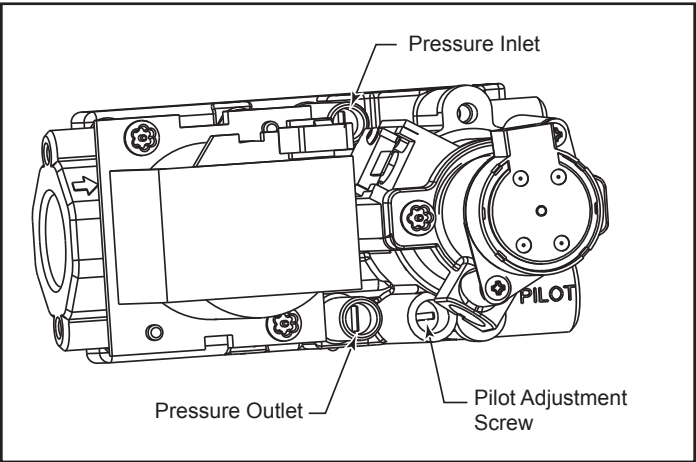

Figure 48 - Signature Command Valve
SDVTSC models are equipped with the Signature Command control valve (Figure 48) which operates on 6 volts. The A/C module plugs into the stove junction box A/C power supply. Four (4) “AA” batteries are used for back up during power outages.